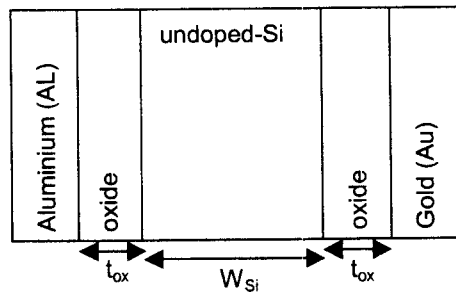

Figure 5.1: Cross section from gate to gate of a double gated FET midway between the source and the drain contact.
- c) Sketch the energy band diagram of the double gated FET, with cross section from gate to gate, midway between source and drain given in Figure 5.1, when no external bias is applied. The thickness of the undoped Si layer is $W_{Si}=100\text{nm}$, the thickness of the oxide layers is both $t_{ox}=2\text{nm}$. The workfunctions of the used materials are: $\phi_{Al}=4.4\text{eV}$, $\phi_{Au}=5.1\text{eV}$ and $\phi_{Si}=4.9\text{eV}$. The bandgap of Si is 1.12 eV. Make sure the relative energy differences in the band diagram are approximately correct. [6]
- d) Is the double gated FET in Figure 5.1 a symmetric or asymmetric gating configuration? [2]